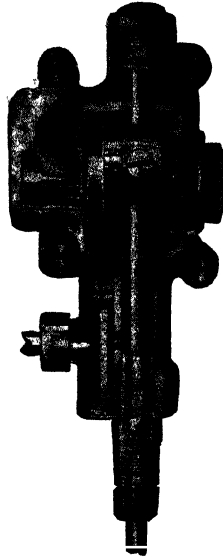

Fig. 35. Excelsior Oil Pump
**Oil Pumps.** Fig. 35 shows a type of oil pump which is used to feed the oil to the motor. In this construction a small worm drive